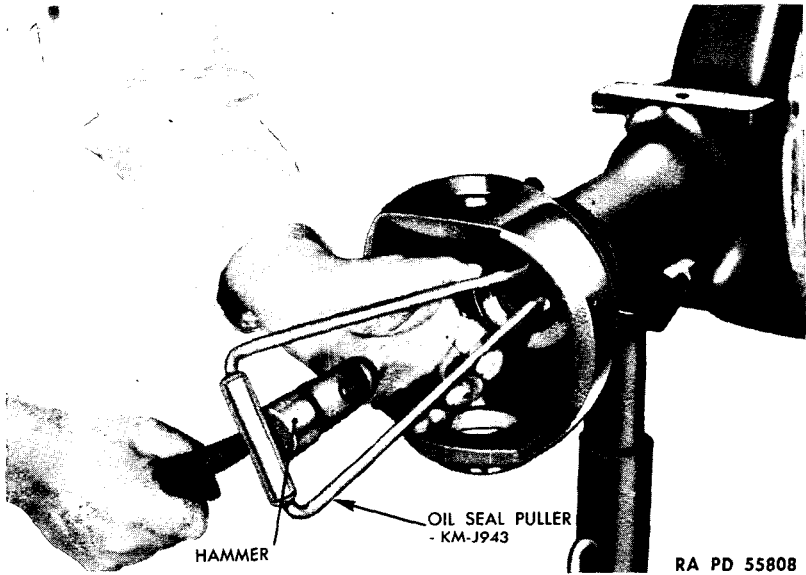

Figure 16—Removing Axle Shaft Oil Seal
a. **Procedure.** To replace the axle shaft oil seals, it is necessary to remove the component parts as instructed in paragraph 11 b (1) through (11). After removing the axle shaft, proceed as follows:
(1) **REMOVE AXLE SHAFT OIL SEAL** (fig. 16).
Insert oil seal puller through the opening in the end of housing and in behind the seal. Place a wedge, such as a cold chisel, between the puller tangs to keep the tangs forced out into place behind the seal and tap the center of the puller to remove the oil seal (fig. 16).